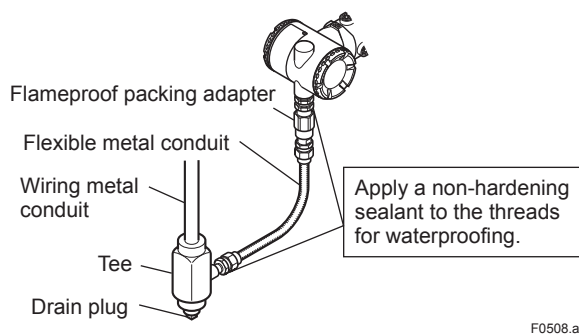

Figure 5.8 Typical Cable Wiring Using Flameproof Packing Adapter
- Wiring cable through flameproof packing adapter for only TIIS flameproof type (see Figure 5.8).